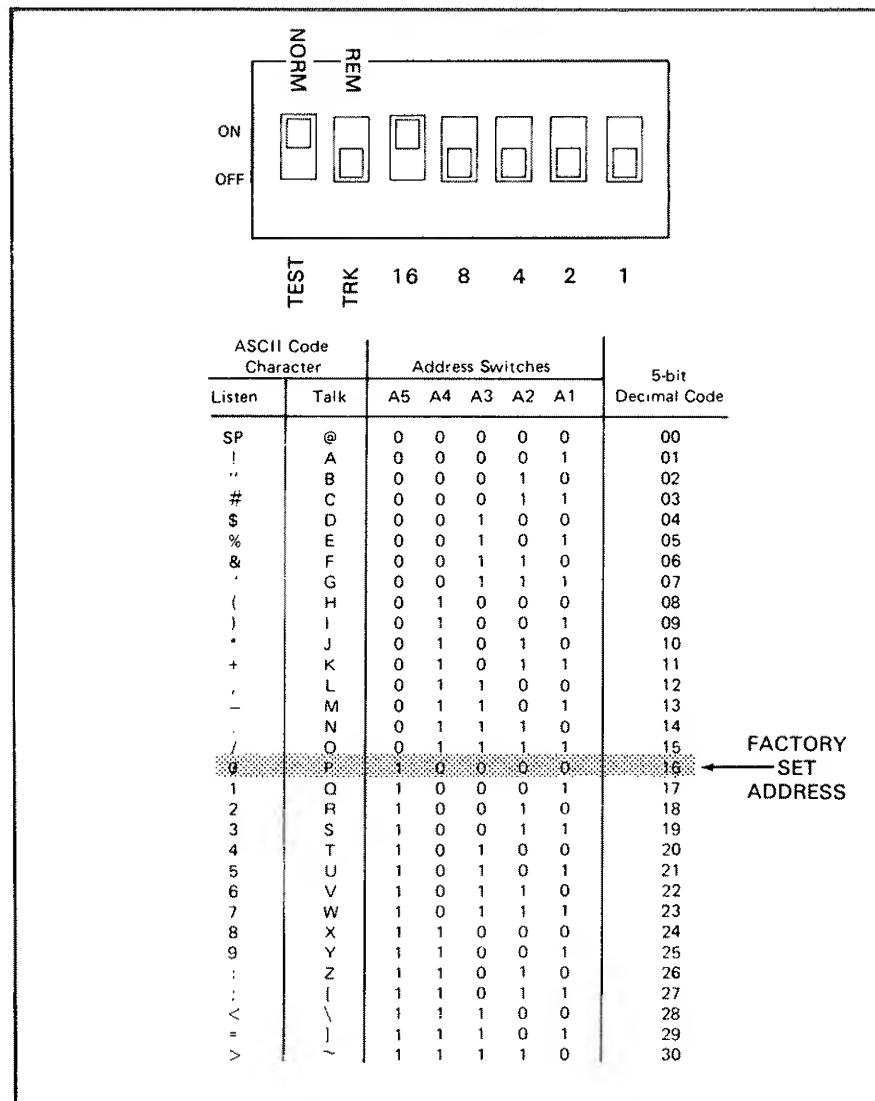

Figure 2-7. Address Selection.
**2-32. HP-IB Address Selection.** The -hp-3586A/B/C is shipped from the factory with an ASCII listen address of  $\emptyset$  (zero) and a talk address of "P". These addresses correspond to a Select Code of sixteen. If another device with the same select code is used in the system, either its select code or that of the -hp-3586A/B/C must be changed. Changing the select code of the -hp-3586A/B/C is accomplished using the DIP switches on the rear panel (see Figure 2-7).
3-1-12. When configured to do so, the -hp- 3586 A/B/C can control the frequency of a synthesizer connected via the HP-IB. Any HP-IB compatible synthesizer that uses ASC II codes F or FF for the frequency entry preface function and H or HH for the hertz units termination can be controlled. Once the Tracking Generator operating mode has been implemented, the frequency of the synthesizer will track the tuned frequency of the 3586A precisely. Each time the 3586 tuned frequency is changed, the synthesizer is switched to remote, programmed to the new frequency, and then switched back to local. To implement the Tracking Generator operating mode, connect the synthesizer and the -hp- 3586 together using an HP-IB cable. Do not connect anything else to the system. Move the Tracking Generator switch, located on the rear panel, to the REM position (see Figure 2-7). Either lock the 3586 to the frequency reference of the synthesizer or visa vice versa (see Paragraph 2-27). This insures that the output frequency of the synthesizer and the tuned frequency of the synthesizer are actually equal.